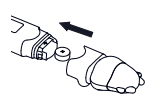

Figure 5
- Use pointed object such as a pen to remove old battery. Discard battery lawfully. Replace with new 1.5V DC button type LR41 or SR41, UCC392, or equivalent. Be sure battery is installed with polarity facing up. (Figure 5).